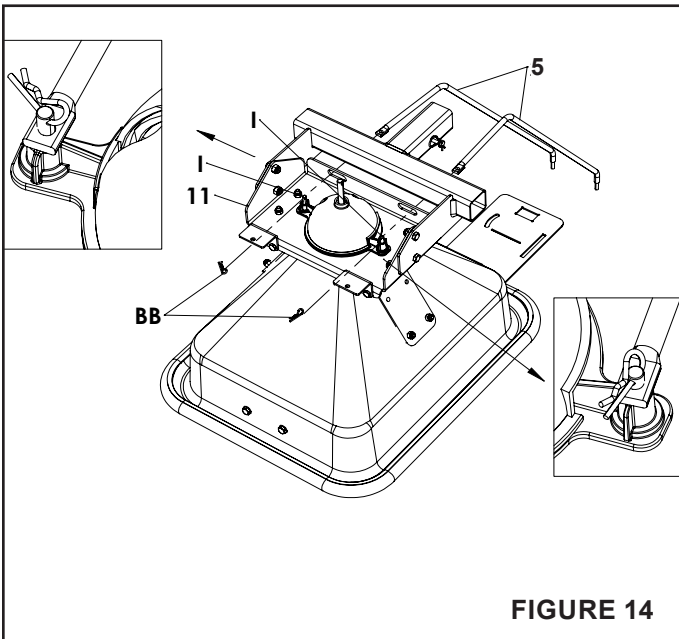

FIGURE 14
STEP 14: (SEE FIGURE 14)
- Install the flat side of flow control rods (5) through the slot on hopper support (11) and place onto the previously installed clevis pin (I). Secure with a hair cotter pin (BB). Repeat on other side.